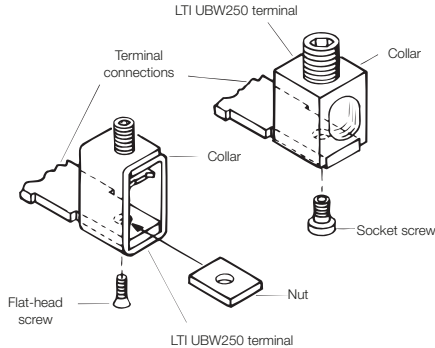

Figure 4: terminal installation
5. If not already installed, mount terminals as shown in Figure 4. When using terminal (Catalog No.LTI UBW250), secure the terminal to the circuit breaker using a 1/8-inch socket wrench and torque to 6-8 lb.-ft (8-11 N.m). After mounting the circuit breaker and before installation of the conductors, the terminal mounting screw can be checked or retightened through the terminal when the conductor screw is removed. When using terminal (Catalog No. LTI UBW250), secure the terminal to the circuit breaker using screw and nut. Torque to 7-9 lb.-in (0.8-1.0 N.m).